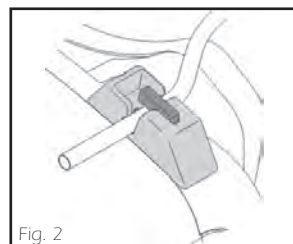

Fig. 2
V.A.C.® Vers-foam Application Fig. 2
4. Route the canister tubing under the V.A.C.® Instill™ unit canister tube clamp on right side of unit and then connect to the dressing tubing. (Fig. 2)